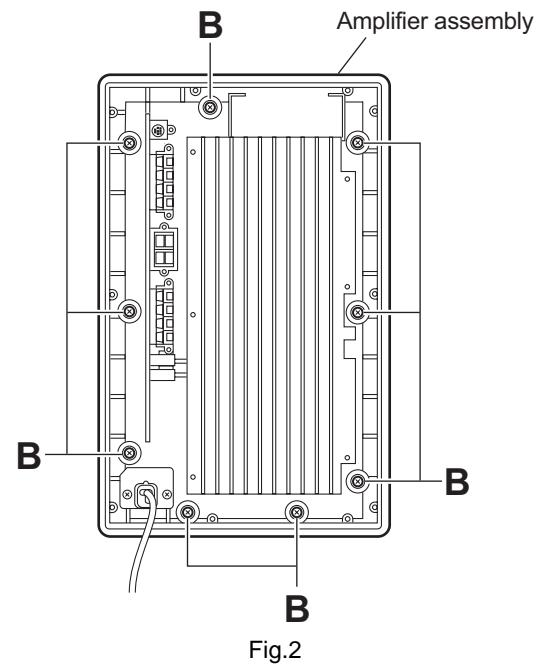

Fig.2
- (2) Remove the nine screws **B** attaching the amplifier assembly. (See Fig.2.)